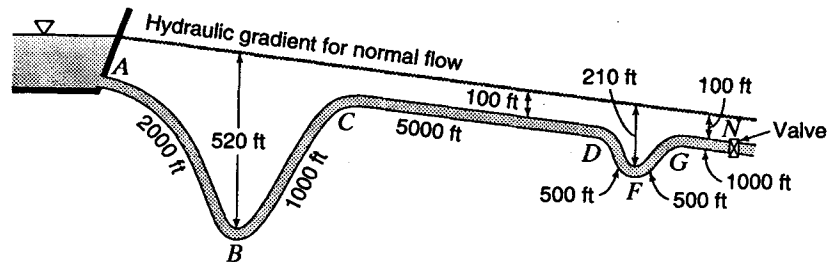

Figure P12.36
12.36 In Fig. P12.36 the total length of pipe is 10,000 ft, its diameter is 42 in, and its wall thickness is 0.89 in. Assume $E = 32,000,000$ psi and $E_p = 300,000$ psi. If the initial velocity for steady flow is 8 fps and the valve at G is partially closed so as to reduce the flow to half of the initial velocity in 3.6 sec, find (a) the maximum pressure rise due to the water hammer; (b) the location of the point of maximum total pressure.